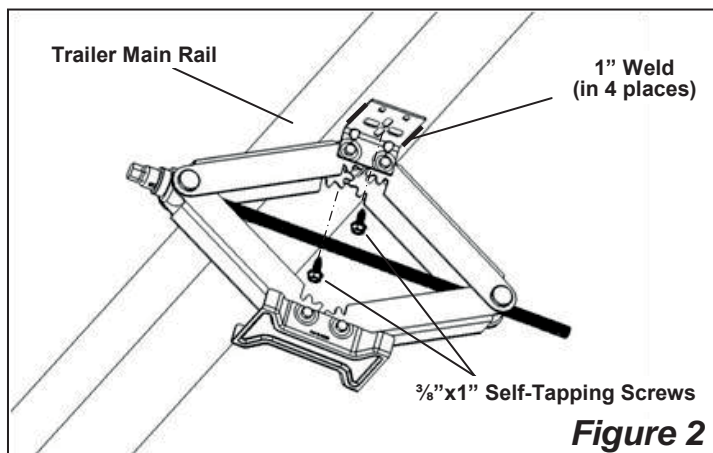

Figure 2
**Husky Scissor Jacks can be welded to the trailer frame or bolted in place using self-tapping screws (Figure 2). To bolt the jacks, continue with the following step-by-step instructions.**